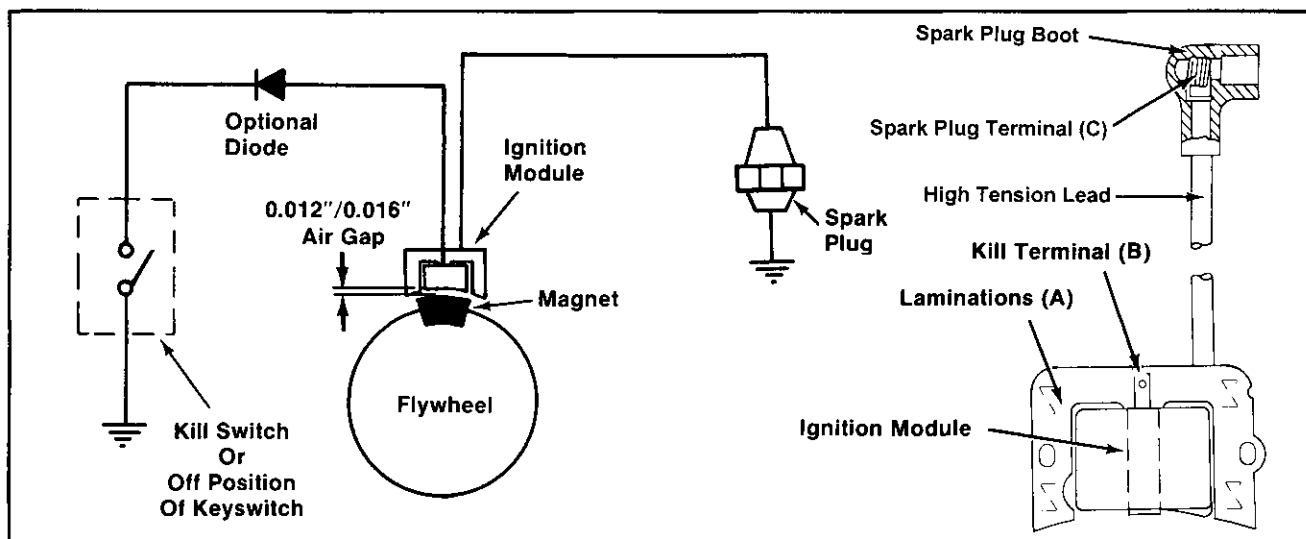

Figure 8-1. Magnum Electronic Magneto Ignition System.
This engine is equipped with a state-of-the-art electronic magneto ignition system. The system consists of the following components (refer to Figure 8-1):
| | 4. Measure the resistance of module secondary using an ohmmeter (see Figures 8-1 and 8-3): Zero ohmmeter before testing. Connect one ohmmeter lead to laminations (A). Connect the other lead to the spark plug terminal (C) of high-tension lead. With the ohmmeter leads connected in this manner, the resistance of secondary should be 7,900 to 20,000 ohms . NOTE: This test cannot be performed unless module has been fired at least once. | 4. If the resistance is low or 0 ohms , the module secondary is shorted. Replace the module. If the resistance is high or infinity ohms , the module secondary is open. Replace the module. If the resistance is within the specified range, the module secondary is OK. |